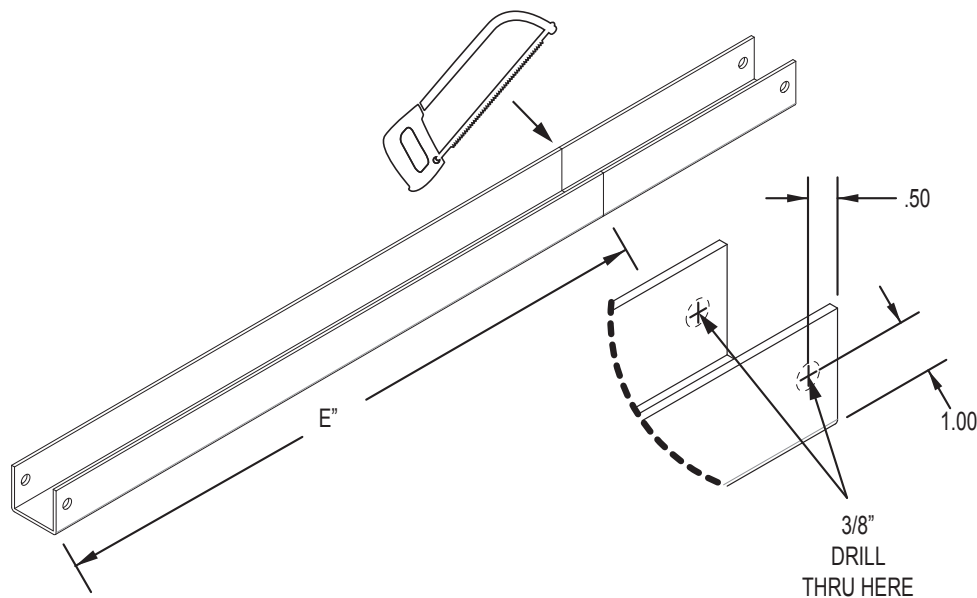

Figure 6.
4. Locate the C-Channel Tilt Risers included with your kit. This tilt riser leg will need to be cut-to-length with a hack saw or other suitable tool to match the "E" length noted in Table 2 for the solar collector size being used and tilt angle that is desired. See Table 2 and Figure 6.
5. Drill a 3/8" hole through the "cut" end of the C-Channel Tilt Riser as depicted in Figure 6.